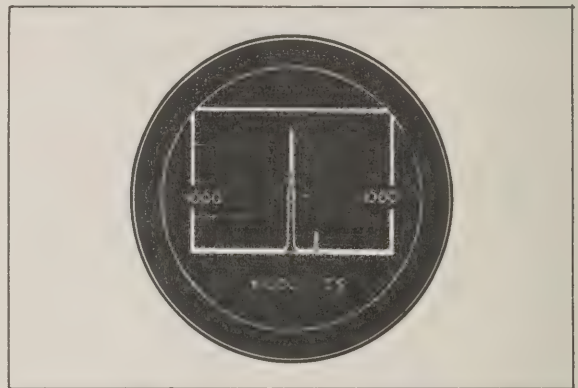

Figure III-4. Single Sideband Modulation.
c. Single sideband modulation (Fig. III-4) appears as two carriers of slightly different frequency. (See "Signal Interference" below.)